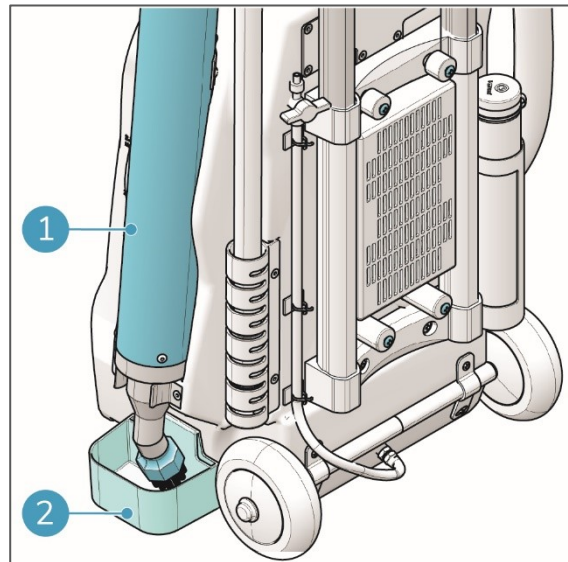

Figure 21
2. Attach the drip tray (fig 21, pos 2) to the machine.
3. Put the lance (fig 21, pos 1) in the holder.